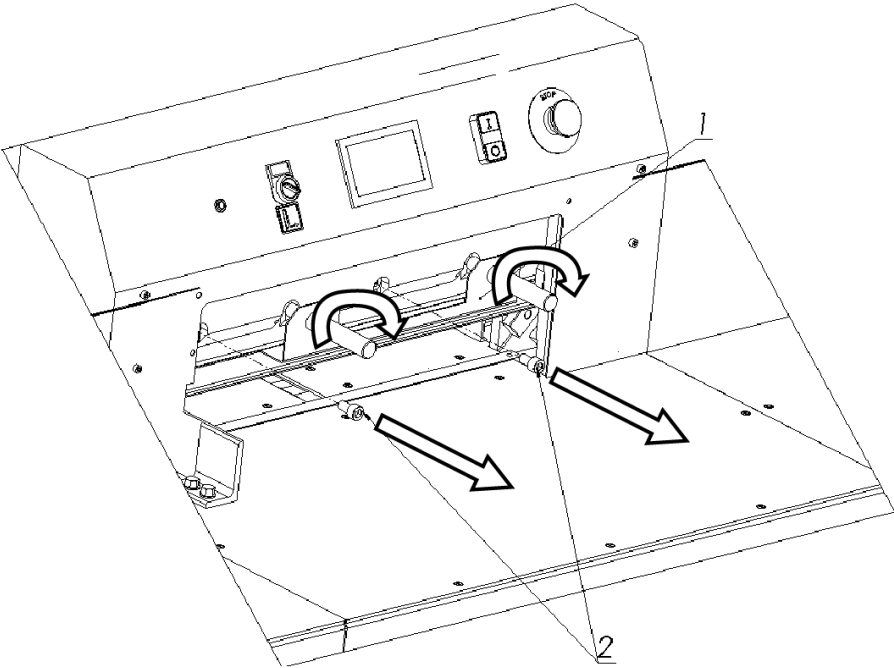

Figure 25
- 8.1.1.12 Unscrew and remove the screws 2 (fig.25)